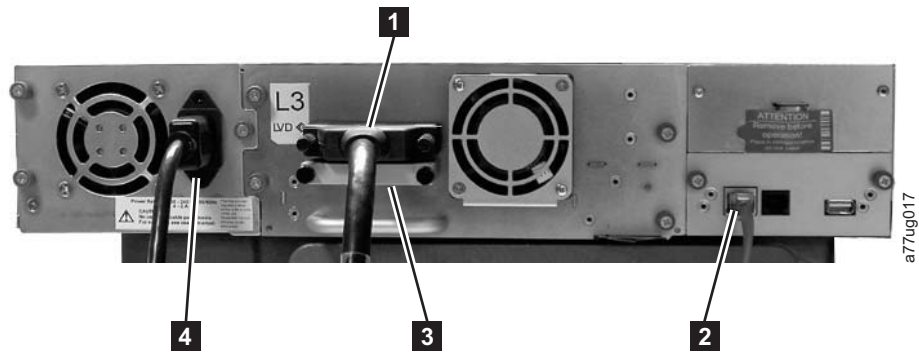
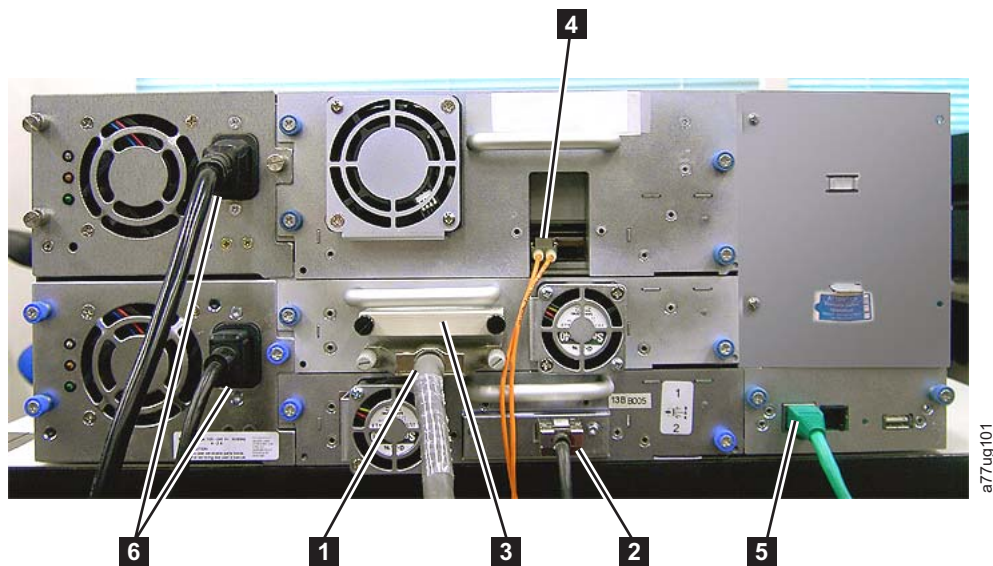
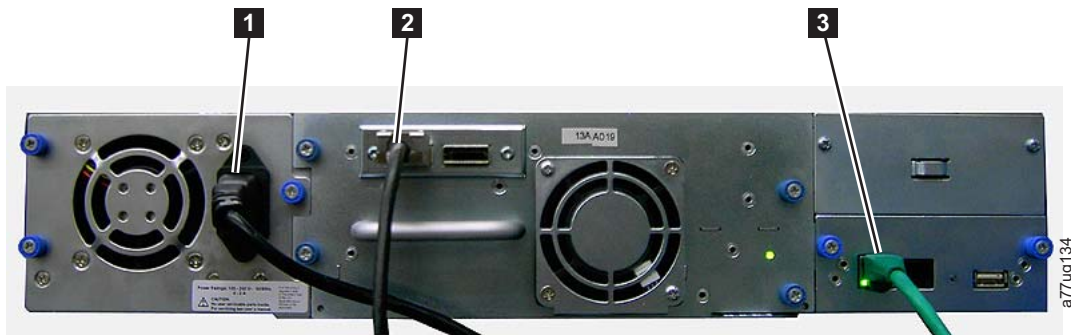

Figure 4-17. Attaching a SCSI host interface cable to the 2U library
Figure 4-18. Attaching host interface cables to the 4U library.
Figure 4-19. Attaching a SAS interface cable to the 2U library
2. For a SCSI library, attach one end of the host interface cable to one of the connectors on the back panel of the library (see **1** in Figure 4-17 on page 4-15). For a Fibre Channel library, attach one end of the host interface cable to the connector on the back panel of the library (see **4** in Figure 4-18 on page 4-15). For a Serial Attached SCSI (SAS) connected library, attach the host end of the SAS cable to the SAS HBA (see **2** in Figure 4-19 on page 4-15). Full high drives have dual SAS connectors. Half high drives have one SAS connector.
- For a SCSI library, connect the host interface cable to the connector on the SCSI host bus adapter or to the connector on the previous device on the SCSI bus. Attach the terminator (**3** in Figure 4-17) to the remaining SCSI connector on the back panel of the library, if the library is the last or only
4. Plug the network ethernet cable (**2** in Figure 4-17 on page 4-15, **5** in Figure 4-18 on page 4-15, or **3** in Figure 4-19 on page 4-15) into the ethernet port on the back panel of the library. If the ethernet connection is directly attached to a server or laptop, a crossover ethernet cable might be required.